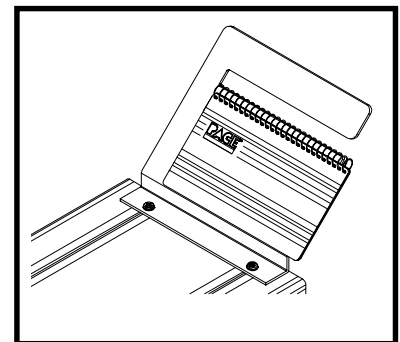

Figure 16. Chart Holder
6. Using Figure 16 as a guide, install the Tip & Temperature Selection System Chart Holder to the top of the power source.